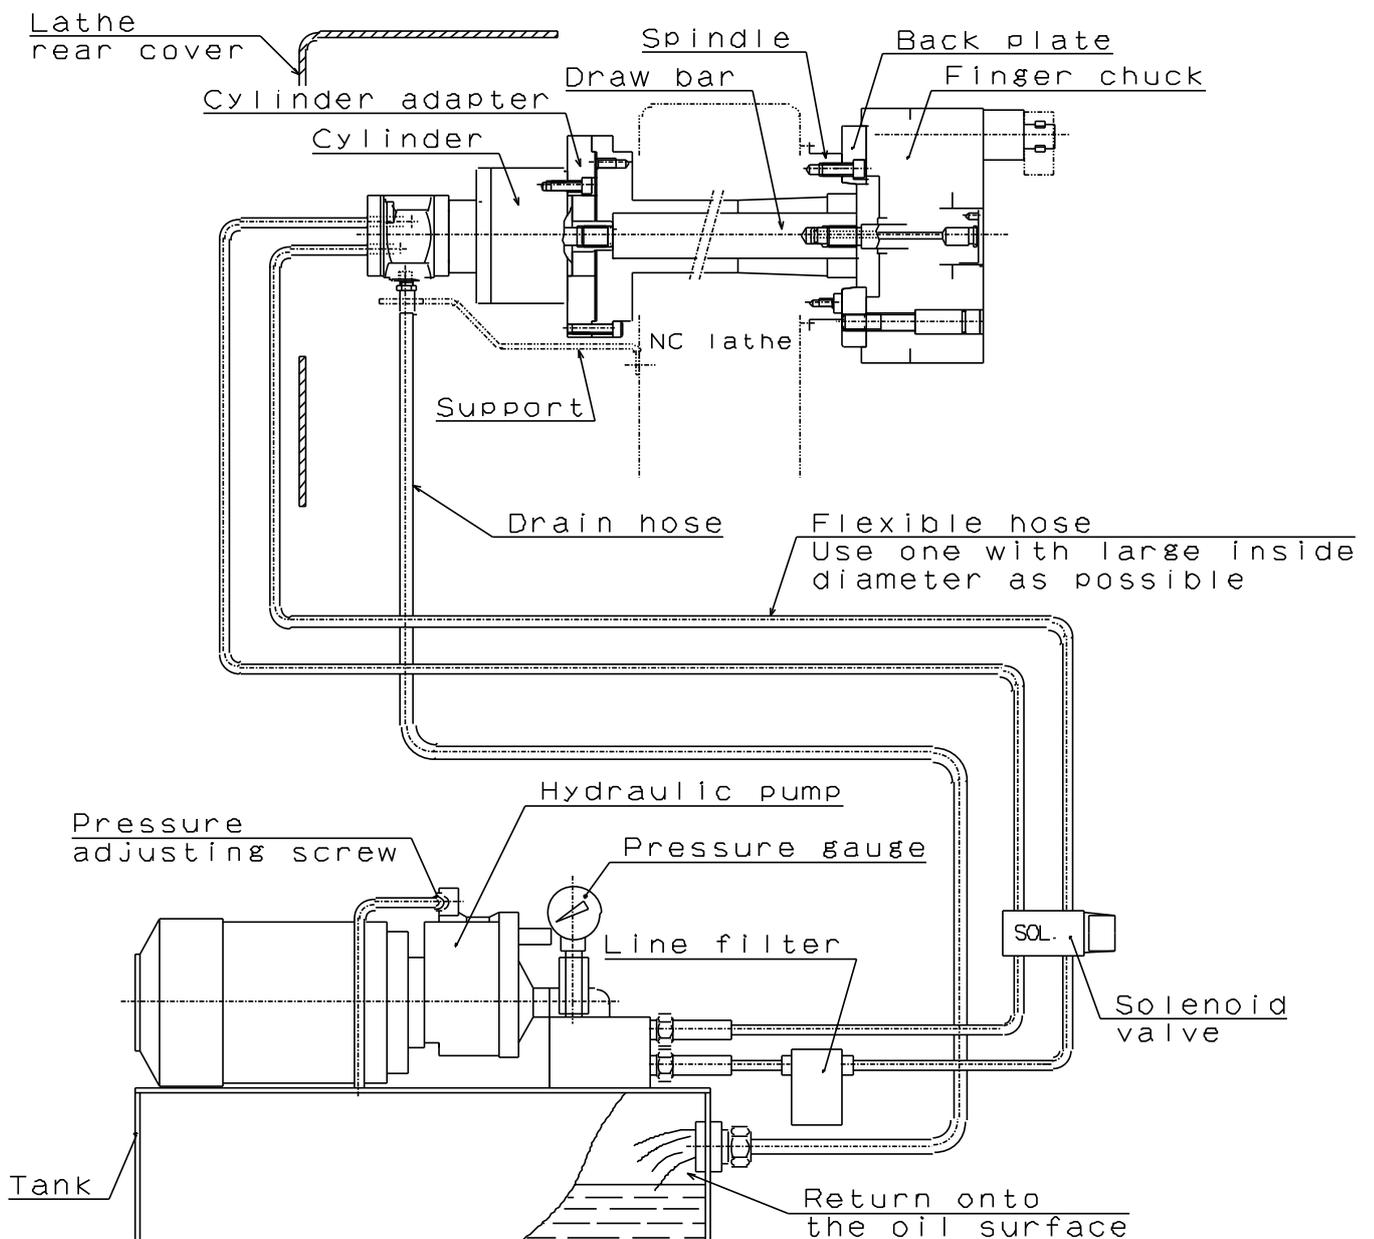

Fig.9
- **The end of the hose is physically above the oil level. (Refer to Fig.9)**